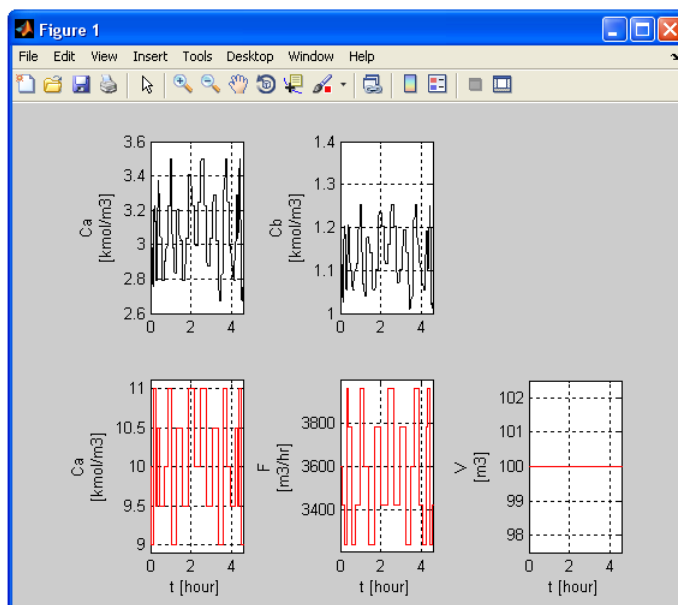

Figure 12: MATLAB Window Showing the Input Step Changes and Output Responses
14. Launch the ACM high-fidelity model simulation for training by issuing the **Build → Perform Training Simulation** command or clicking  on the toolbar. This creates temporary files and a folder in the current working directory and brings up a MATLAB command window followed by an ACM window. The ACM simulation starts immediately. If the user receives a pop-up message stating “Initializing MATLAB engine failed!”, refer to Section 5.2 to fix the problem. The temporary files created in the current working directory include a MATLAB/Simulink file and an ACM file, both of which have time stamps appended to the file names. There are also three temporary MATLAB script files that are copied to the directory and used by the MATLAB engine during the high-fidelity model simulation. The ACM iteration message can be viewed inside the ACM window if the ACM’s “Simulation Message” window is turned on. Wait without closing the MATLAB command window or ACM window. After the high-fidelity model simulation is completed, a MATLAB plot window as shown in Figure 12 displays with the 2-D plots of input steps and output responses.